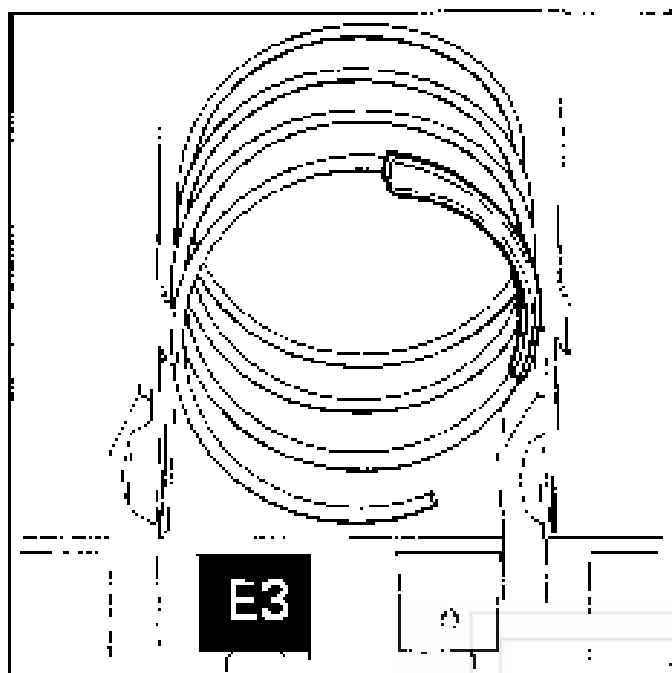

Figure 7. LOCATION OF PRODUCT PUSHER ON SPIRAL.
9. **PRODUCT PUSHER:** The machine contains enough pushers for you to install a pusher on each candy spiral. This plastic part is designed to push the top of the product forward when it is vending, helping it fall from the shelf. It can also be used with products that have the wrapper end flap on the outside of the package. In this case, the pusher prevents these products from hanging on the spiral by spreading the flap. The pusher is installed approximately 210 degrees from the front end of the spiral with the tab extending forward (see Figure 7). Locate the pusher in its proper position, hold it against the spiral wire and push the semi-circular part around the spiral wire. Note: Not every selection spiral will need a product pusher. (Examples—Box Items)